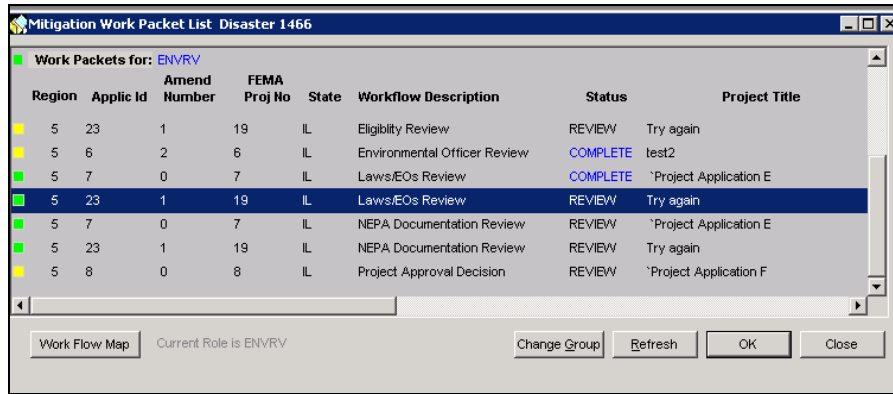

Figure 7-26: Mitigation Work Packet List
1. On the MITIGATION menu bar, click on Projects > Eligibility Determination > In Process. The Mitigation Work Packet List is displayed (Figure 7-26).